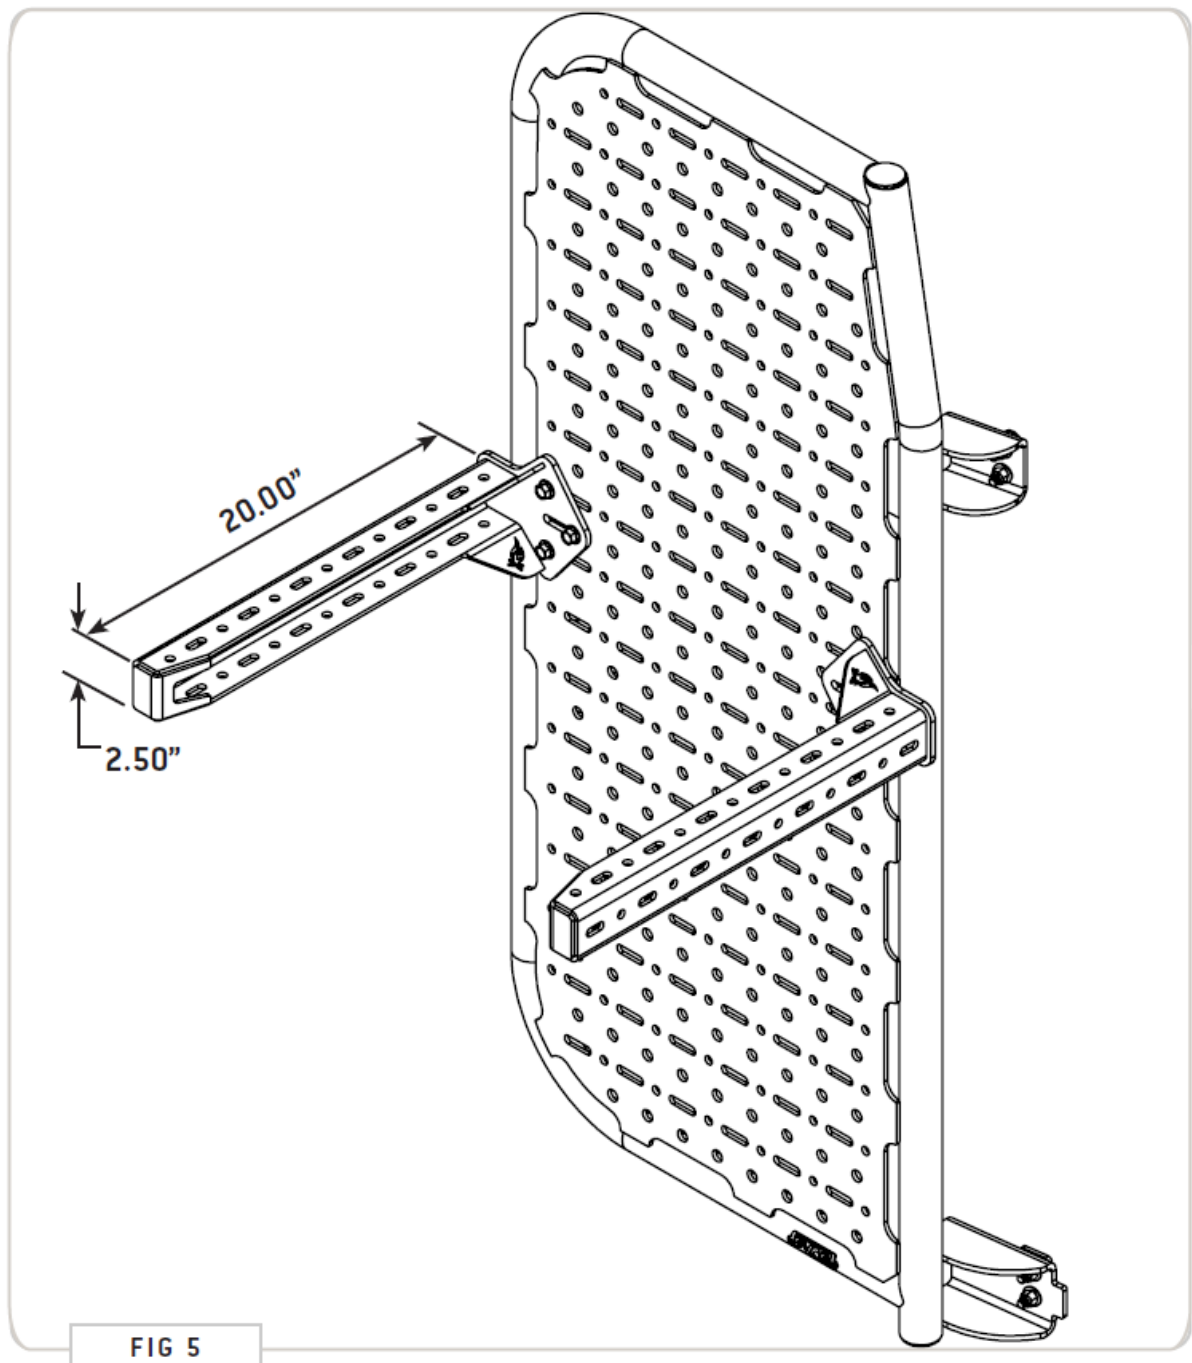

FIG 5
- **Mounting Posts Dimensional Information:** Review FIG 5 for relevant dimensional information regarding the length and width of the Mounting Posts themselves.
- **Mounting Posts Dimensional Information:** See FIG 5 for relevant dimensional information pertaining to the length and width of the Mounting Posts themselves.